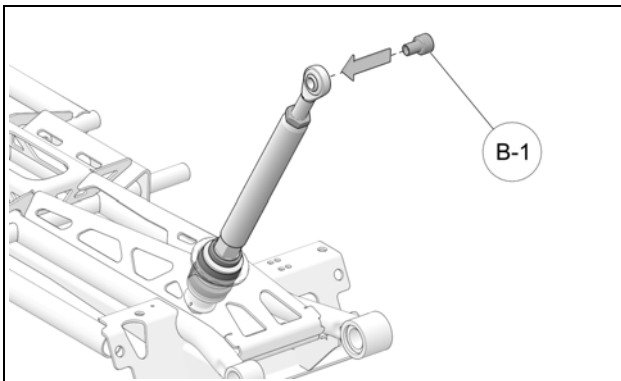

Figure 11
- Complete assembly of Strut Rod by inserting T-Bushing (B-1) in rod end. See Figure 11.